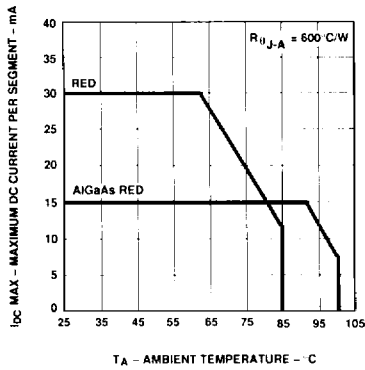

**Figure 1. Maximum Tolerable Peak Current vs. Pulse Duration - Red.**
- See Figure 1 to establish pulsed operating conditions. Maximum pulse width is 1.5 ms.